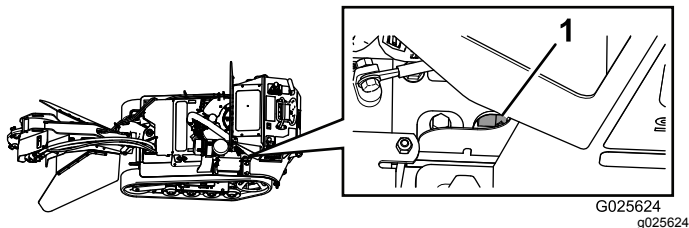

Figure 40
**Note:** The fuel-shutoff valve is also accessible through the frame, behind the battery (Figure 40).